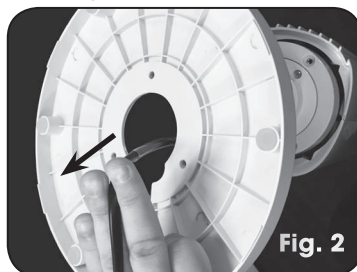

Fig. 2
3. Hold the base stand piece with the curved side facing towards the bottom part of the tower fan body, thread the power cord through the circle cord opening located in the base stand piece. (See Fig.2).